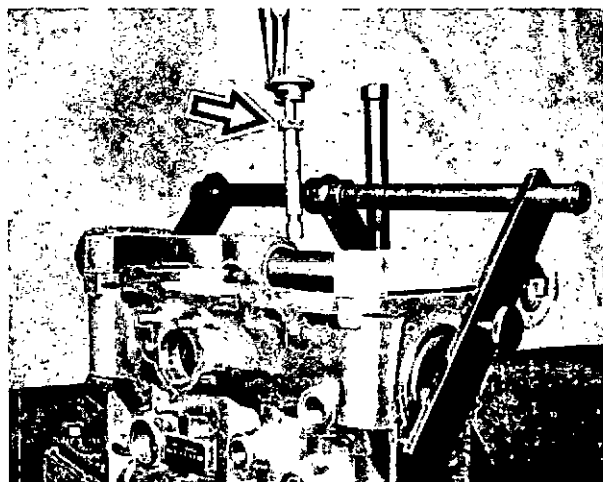

Fig. 39 Fitting plunger and lower plate
- (a) Fit the lower spring plate to its plunger and insert the assembly into its barrel (see fig. 39) with the line on the plunger towards the rack, as indicated by the arrow.